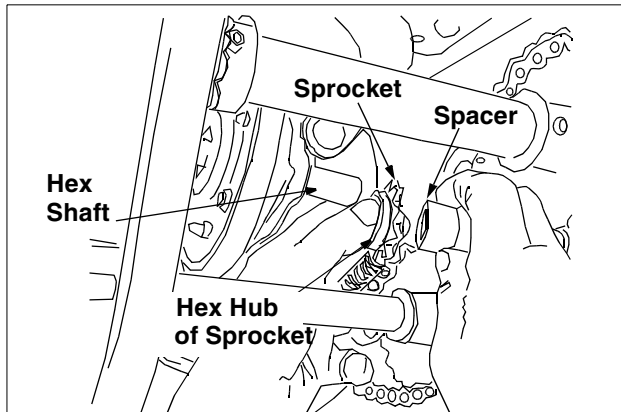

Figure 23
- Insert the hex shaft through the sprocket and the spacer. See Figure 23. Make certain that the chain engages both the large and the small sprocket.
NOTE: If the sprocket fell from the snow thrower while removing the hex shaft, place the sprocket on the hex shaft. Position the hex hub of the sprocket toward the friction wheel when sliding the sprocket on to the hex shaft. See Figure 23.